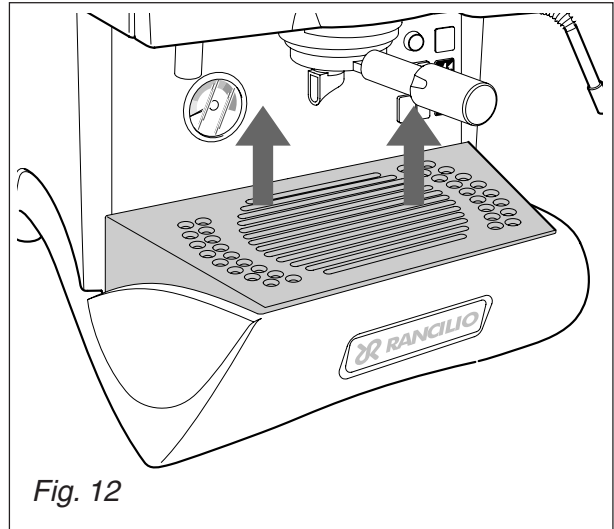

Fig. 12
- Remove the cup-stand grille 1 (Fig. 12) and clean.